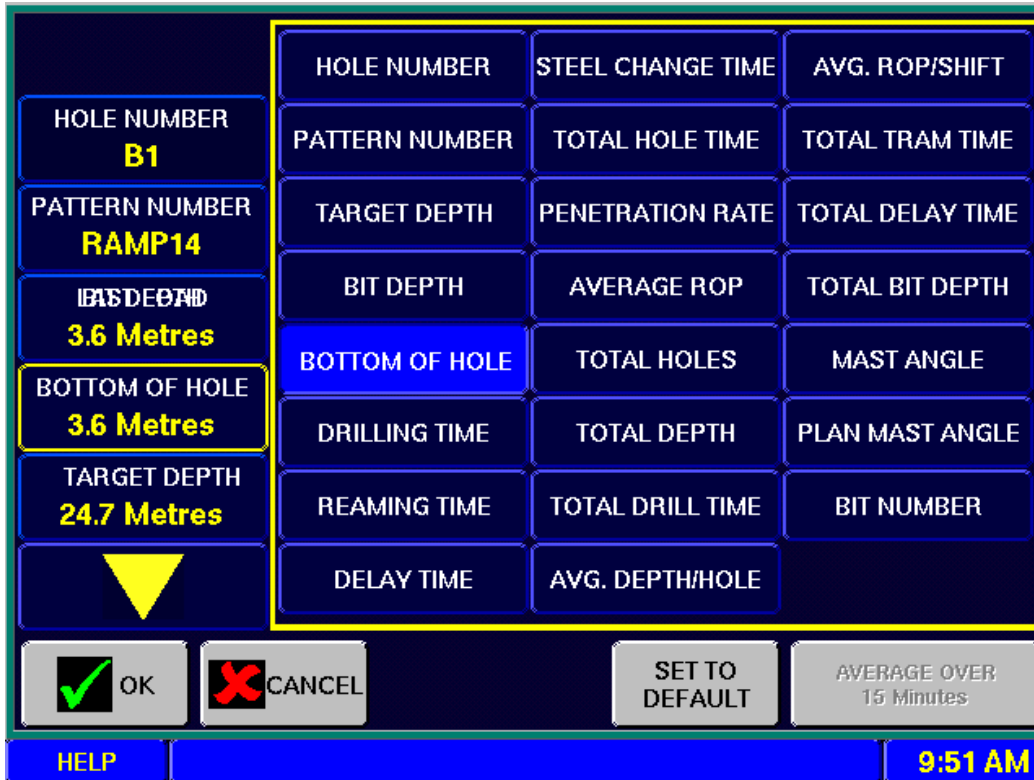

Figure 6: Editing the Parameter Buttons
1. To edit the Parameter Buttons, select the button you wish to change. This will cause a list of parameter options to appear as shown in Figure 6.